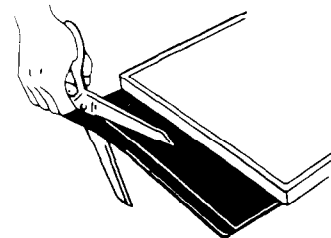

FIGURE 16
- Use a pair of scissors and cut toe plate along this line. See Figure 16.
3. Remove spacer and inside panel. *See Figure 16.*